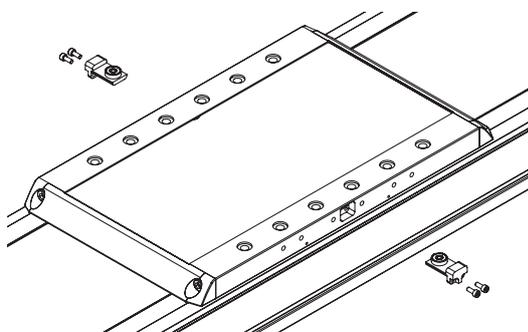

Fig. 7.19 Cover strip guides
- ▶ Pull the cover strip guides sideways out of the carriage. (see Fig. 7.19).